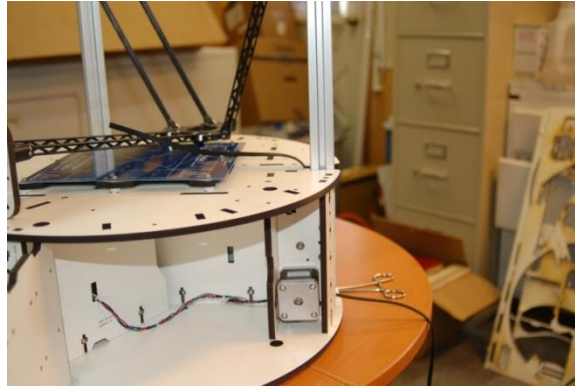

Figure 79 - Initial Belt Routing
18.3 - Figure 79 above will show you what it should look like from the outside when you're done with this step. Note that the belt teeth must be facing "in" towards the rail. Make sure while pulling the belt that it doesn’t engage the drive pulley that’s installed on the stepper motor – you don’t want to spin the motor by hand.